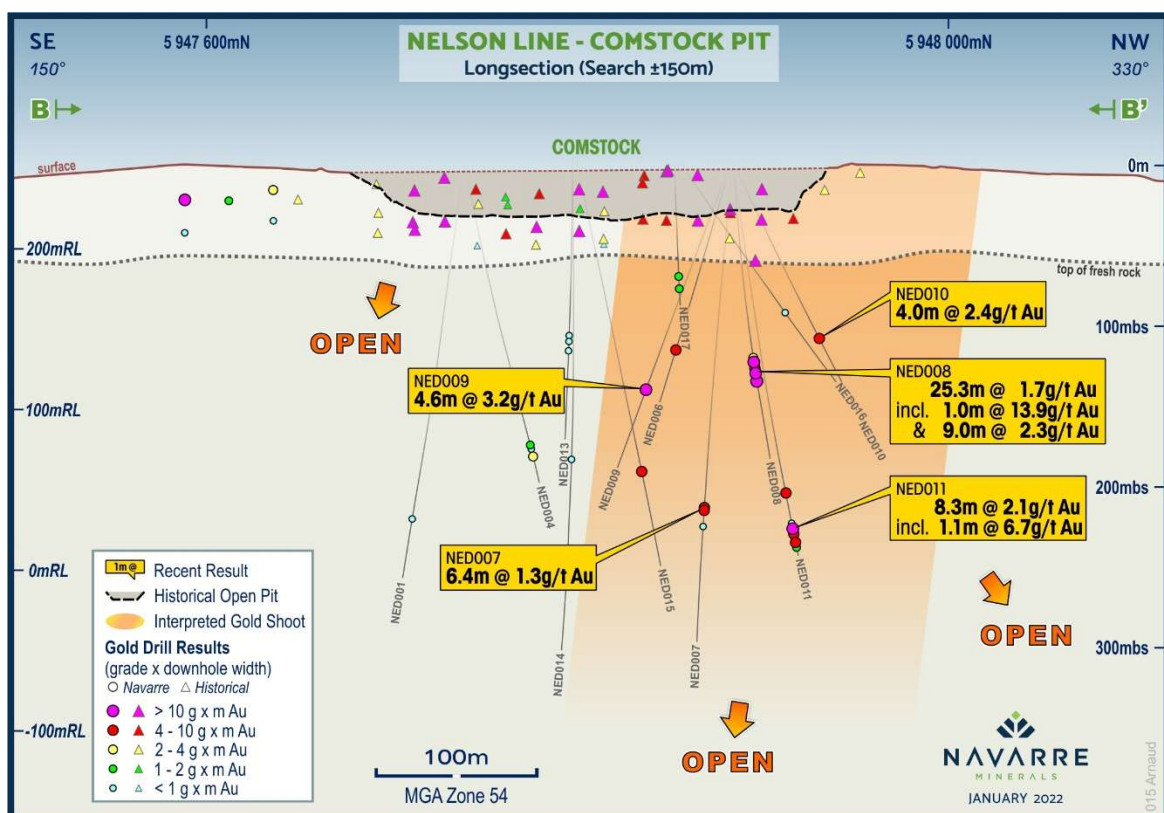

Figure 5: Longitudinal projection of the Comstock Shear showing significant drill intercepts (refer to Figure 4 for location).
The drilling also highlights the development of a higher-grade, steeply south plunging gold shoot around the intersection of the bedding parallel Comstock with the discordant Walkers shear zones (Figure 5). This mineralisation has similar geometry to historically mined shoots within the St Arnaud Goldfield and remains open at depth and along strike to the north.
- **Walkers Shear** – an irregular 0.5 to 5-metre-wide quartz reef and stockworks structure containing zones of strong sulphide mineralisation in the form of arsenopyrite $\pm$ galena $\pm$ sphalerite and rare visible gold. This shear has been confirmed by drilling over a 250 metre strike extent and to 200 metres depth. This structure trends slightly oblique to the strike of the Comstock Shear and is interpreted to intersect the Comstock Shear in the northern end of the old open pit where higher-grade intercepts define a steeply plunging gold shoot (Figure 5). This gold shoot remains open to the north and at depth (see Figure 5).